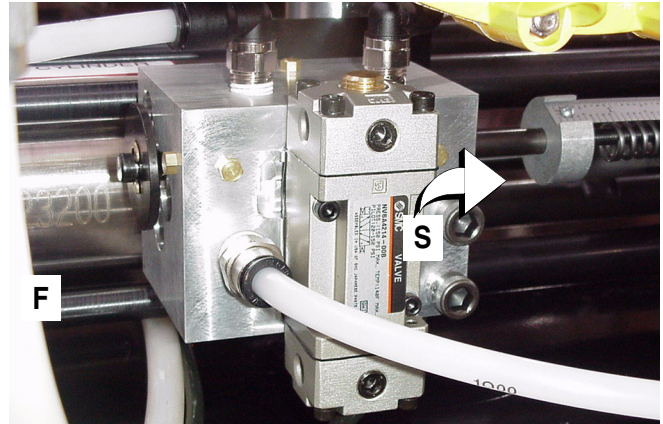

FIG. 14
7. Pressurize the tank with dried air by opening the component B air shutoff valve (S) and the pressure tank air shutoff valve (T), FIGures 14 and 15.